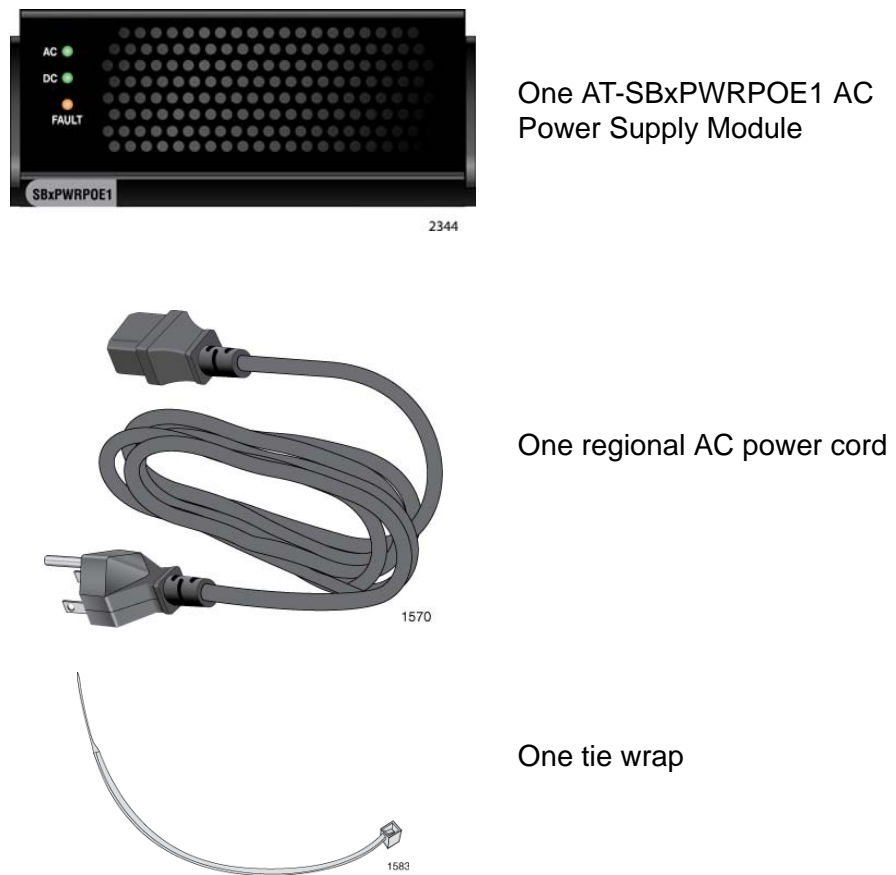

Figure 54. Items Included with the AT-SBxPWRPOE1 Power Supply Module
3. Remove the power supply from the shipping package and verify that the shipping package contains the items listed in Figure 54 on page 115.